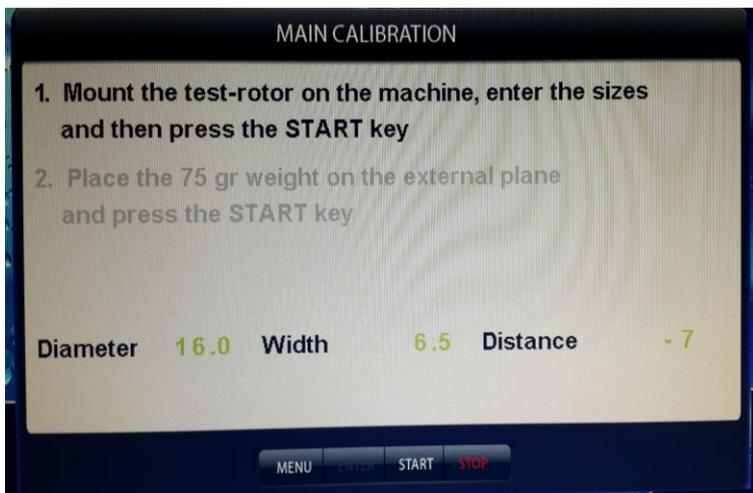

fig. 19.1
20.2. Press the button «MENU». Select the item 1 «Main calibration» by pressing the button «1» in the top row of the keyboard on the MENU screen. The window «MAIN CALIBRATION» will appear (fig. 19.1).
20.5. Start the WB by pressing the button «START». After the first cycle is completed, the window (fig. 19.1) will display the second step: